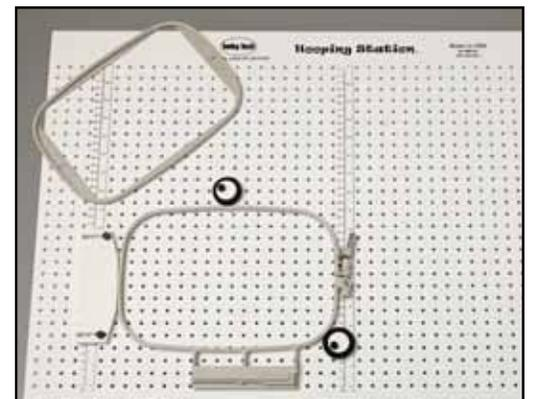

Fig. 3
3. Be sure the two large flat brackets are placed so that any lateral (left/right and up/down) pressure exerted during the hooping process is toward these brackets rather than the cushioned round eccentrics. Shown is a typical hoop setup. **Fig. 3**